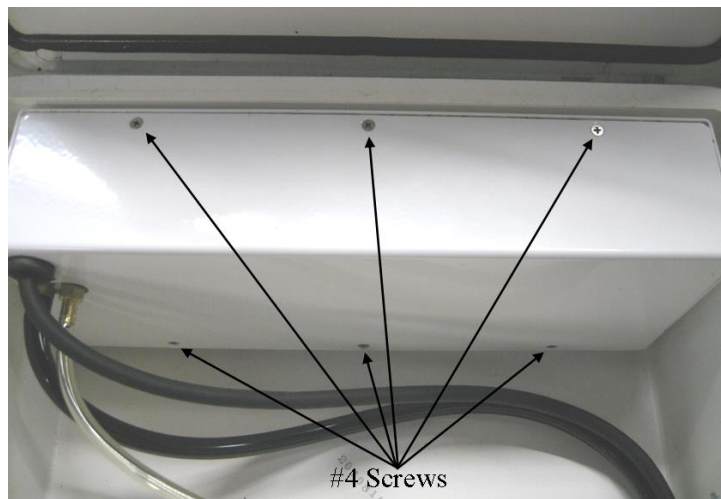

FIGURE H-3. Location of #4 screws of pump assembly
4. With the filter assembly removed from the CPEC200 pump module enclosure, remove the six #4 screws (FIGURE H-3) from the pump assembly. If these screws become lost or damaged, replace them with pn 488.
5. Hold the pump assembly securely to the shell cover while replacing the shell cover to the shell bottom. Make sure the fan does not slide back out of its hole in the foam. Fasten the shell cover in place with the six #4 screws (see FIGURE H-3).
6. Reconnect the tubing to the inlet and outlet of the filter assembly (see step 2 of removal and refer to FIGURE H-3).